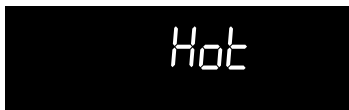
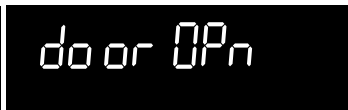

Fig. 1
Fig. 2
2. If the self-clean cycle has heated the oven to a high temperature, the "**Hot**" (Fig. 1) message will show in the display. Allow enough time for the oven to cool and for the "**door OPn**" message to display (Fig. 2). When this message turns off the oven door may be opened.